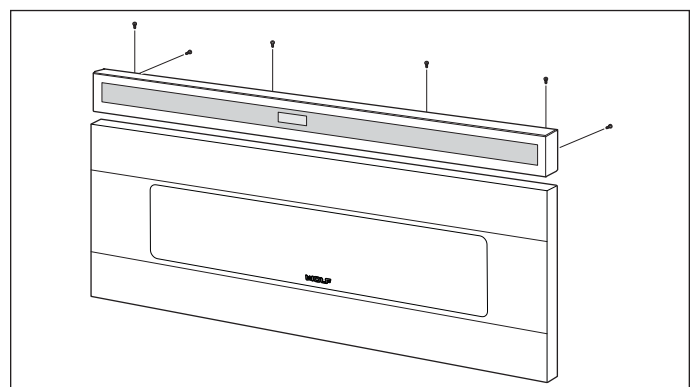

Figure 4-4. Touch Control Panel Removal
7. To remove the control panel frame assembly from the top of the drawer, extract five mounting screws holding the control panel frame to the control panel angle in the back of the drawer (See Figure 4-4).